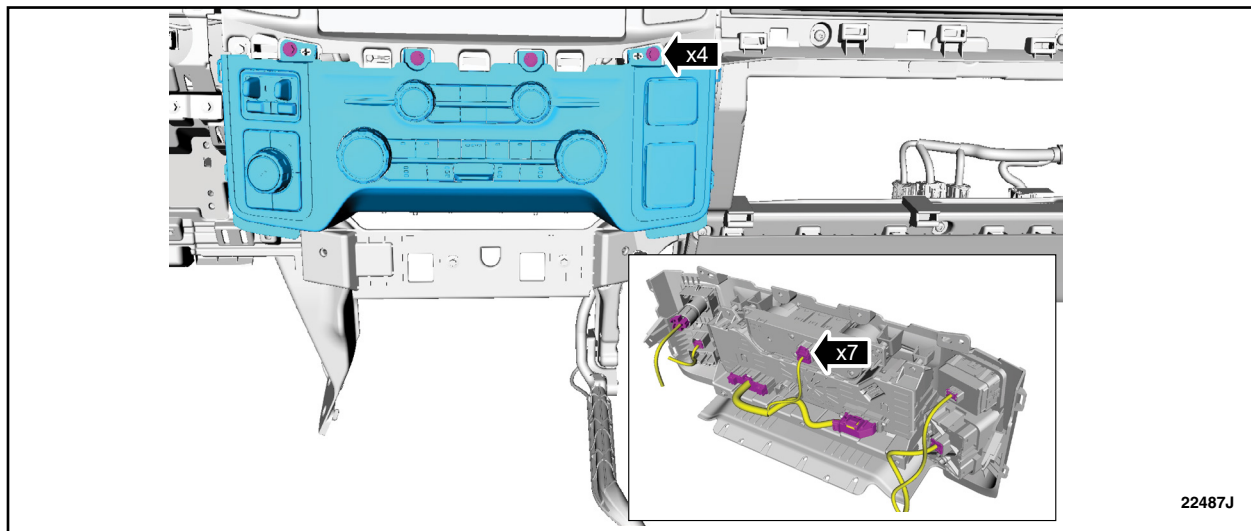

**FIGURE 8**
10. Release the clips and remove the floor console upper LH trim panel. See Figure 8.